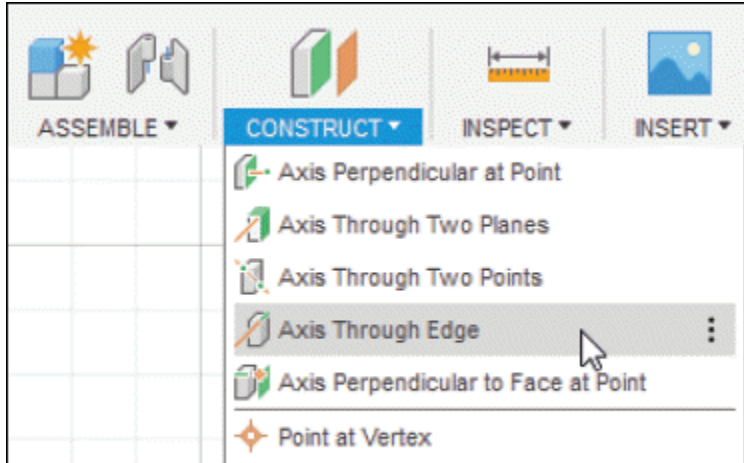
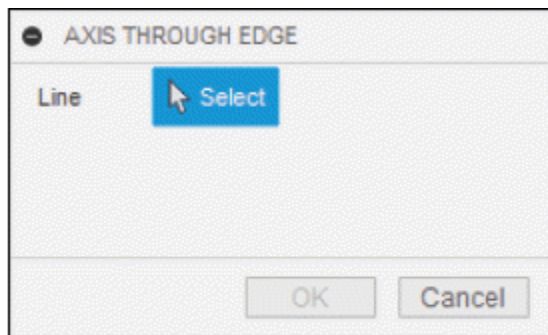

Figure-115. Axis Through Edge tool
Figure-116. AXIS THROUGH EDGE dialog box
- Click on the **Axis Through Edge** tool of **CONSTRUCT** drop-down from **Toolbar**; refer to Figure-115. The tool will be activated and **AXIS THROUGH EDGE** dialog box will be displayed; refer to Figure-116.